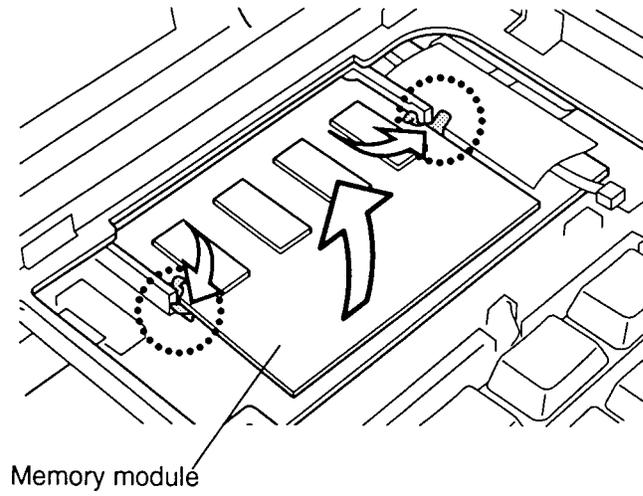

Figure 4-8 Removing the memory module
7. The memory module socket is now exposed. Two latches on each side of the module hold it in place. Press these to the outside to release the module. The side of the module away from the connectors will spring up (figure 4-8).